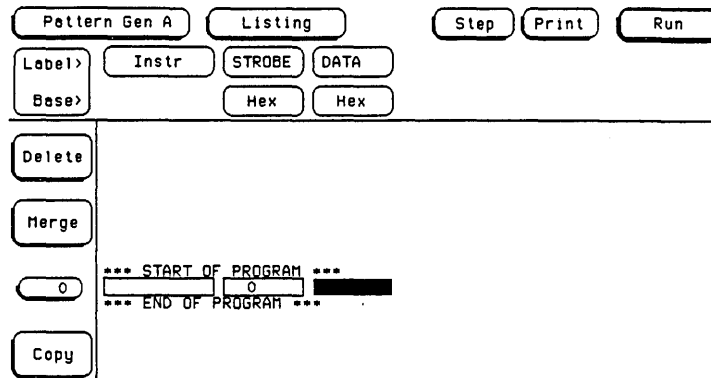

Figure 4-6. Program Line Field
- f. Rotate knob counter clockwise until "START OF PROGRAM" comes down to midscreen and the program line field shows 0. See figure 4-6.